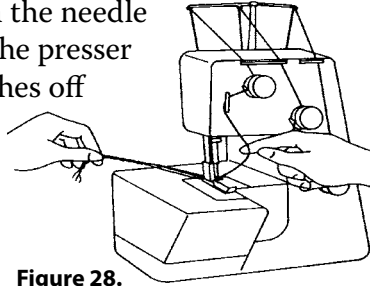

Figure 28.
1. Pull some slack in the needle thread and raise the presser foot. Slip the stitches off the stitch finger. Grasp all threads with your left hand (Figure 28).
5. Raise the needle and the presser foot. Pull a small amount of slack in the needle thread (Figure 28). Slip stitches off the stitch finger. Grip the threads and the fabric as close to the stitching line as possible with your left hand while rocking the handwheel (flywheel) back and forth until you have pulled approximately 5 inches of thread (unchained). Cut the thread, leaving at least 2 inches on the fabric and 3 inches on the needle. If possible, pull the threads to the underside; tie knots in each of the two thread tails and hide them at least ½ inch under stitching. Clip excess threads.